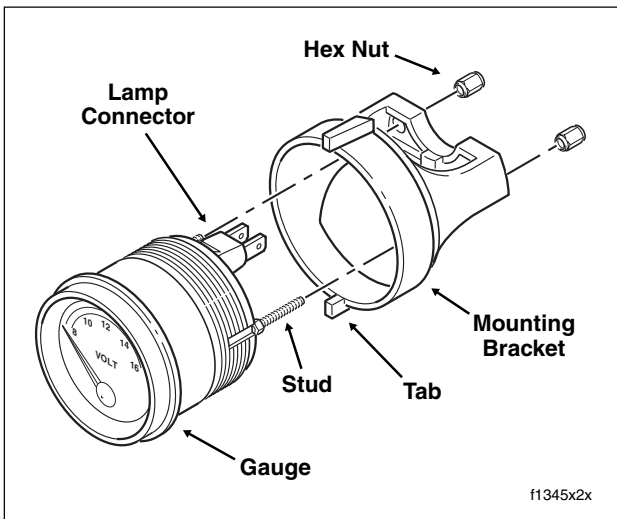

Figure 2-155. Voltmeter Gauge Assembly
30. At bench area, remove hex nuts from studs at back of voltmeter and fuel gauges. Remove mounting brackets from gauges and remove gauges from inner fairing. See Figure 2-155. On Classic and Ultra models, repeat step to remove oil pressure and ambient air temperature gauges.
2. Install voltmeter and fuel gauges in inner fairing. Slide mounting brackets over studs. Verify that tabs on top and bottom of brackets engage slots in inner fairing. Loosely install hex nuts on studs. Verify that gauge is properly aligned and tighten nuts to 10-20 **in-lbs** (1.1-2.3 Nm). See Figure 2-155. On Classic and Ultra models, repeat step to install ambient air temperature and oil pressure gauges.